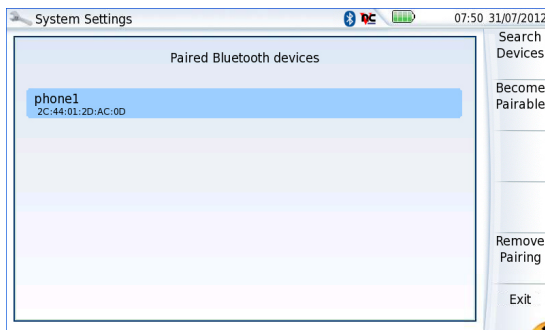

Figure 81 Platform paired with one equipment
- 3** Once the bluetooth device and the Platform are paired, a screen is displayed with the description of the device (see Figure 81 on page 147).